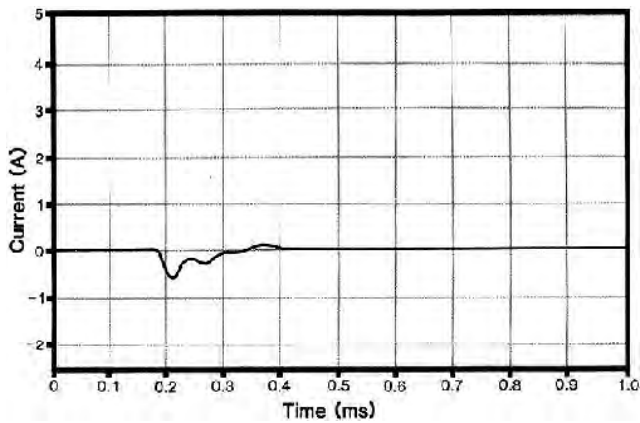

FIGURE 58. Dry Condition Current Output.
**Shock Intensity:** Current output for a dry condition is shown in FIGURE 58.